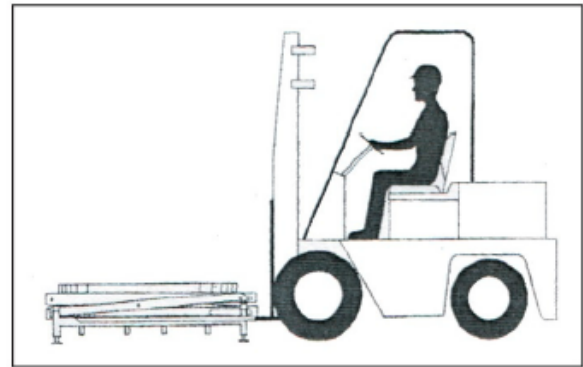

Fig. 12. Moving the Level Loader
2. Insert the forks into the pockets in the base frame. See Figure 12.